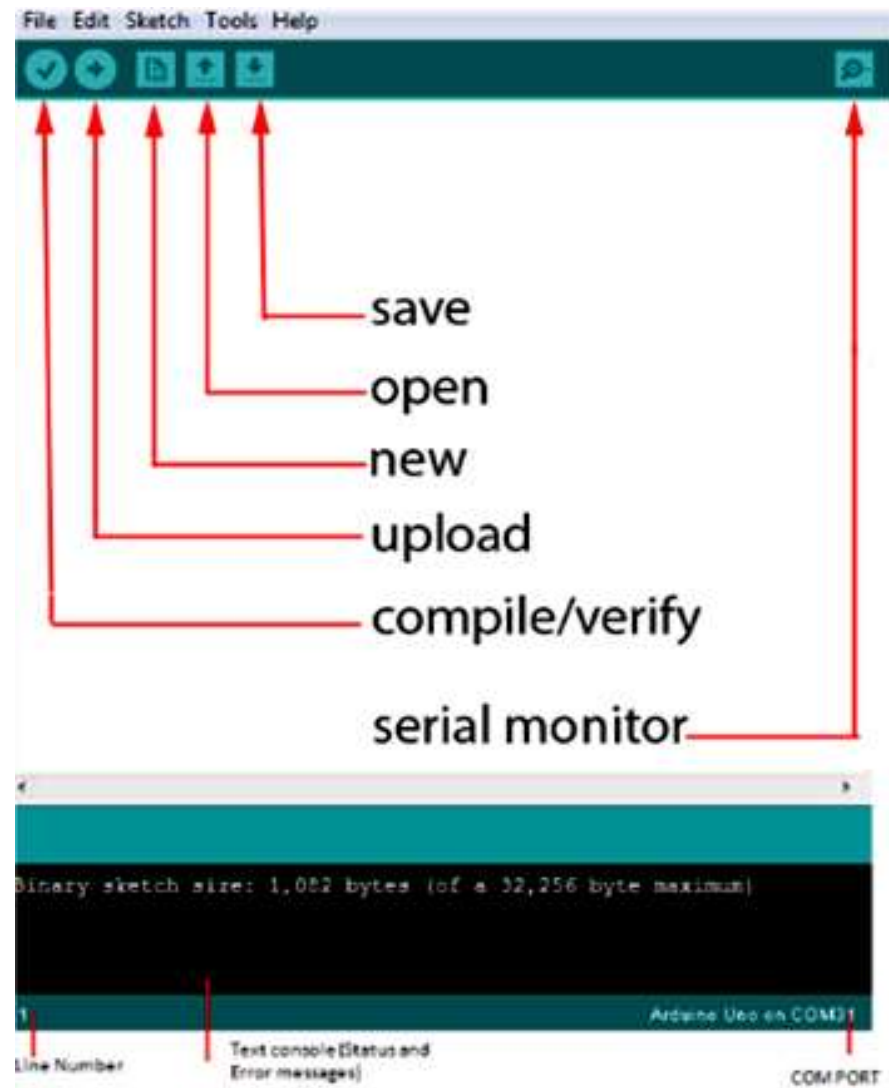

Figure 7.5 : Toolbar Buttons in Arduino IDE
- The figure 7.5 shows the toolbar options for Arduino IDE.